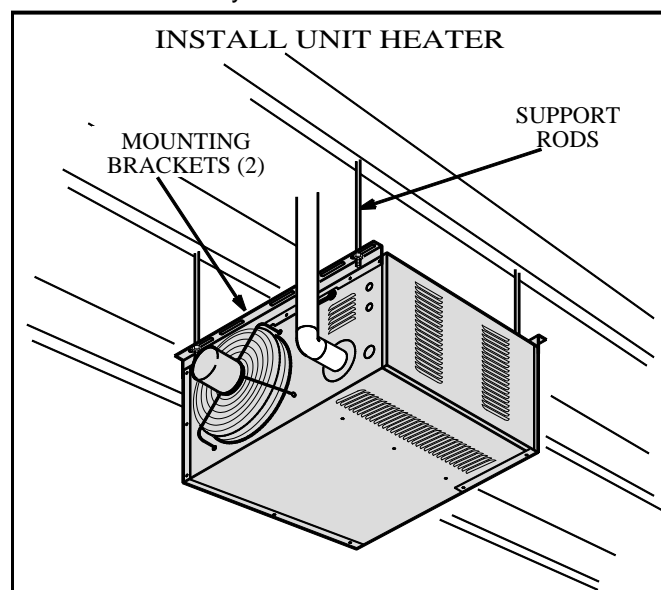

FIGURE 1
Unit is shipped ready for installation. Unit may be installed as shown in Figure 1 or inverted 180° depending on desired location as governed by clearances, vent connection, air direction, gas supply, electrical supply and service accessibility.
- 5- To support unit, secure mounting bracket to ceiling joist or truss. Unit may also hang on rods as shown in Figure 1.